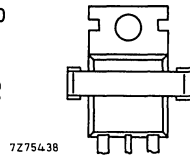

Fig. 2a Position of
3. Push down the clip over the device until the long end of the clip snaps into the wide slot in the heatsink. The clip should bear on the plastic body, not on the tab (see Fig. 2a).